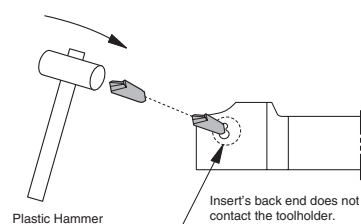

Fig. 1 How to attach inserts
- Tap the insert lightly with a plastic hammer to push it in to the extent that it can not be removed by hand. (Fig.1)